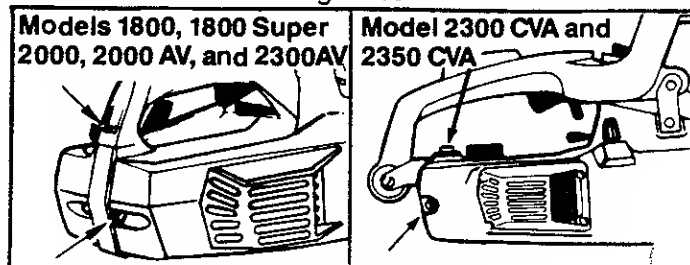

Figure 40
3. Remove the large screw at the rear of the control handle and the small screw directly below it. Figure 40.